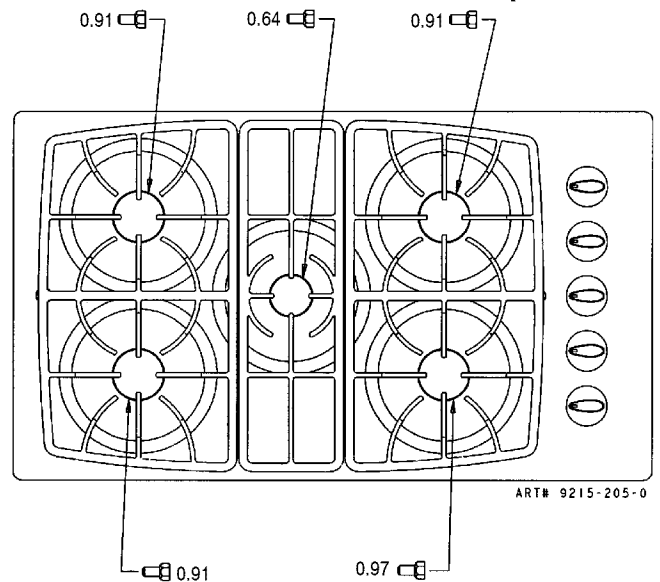

FIGURE 9
Step 4: Locate the LP orifice spud packet attached to bottom of appliance. The spuds have small numbers stamped on the side. This number codes the orifice diameter and its correct burner location. Figure 9 and 10 show the correct LP orifice spud location.